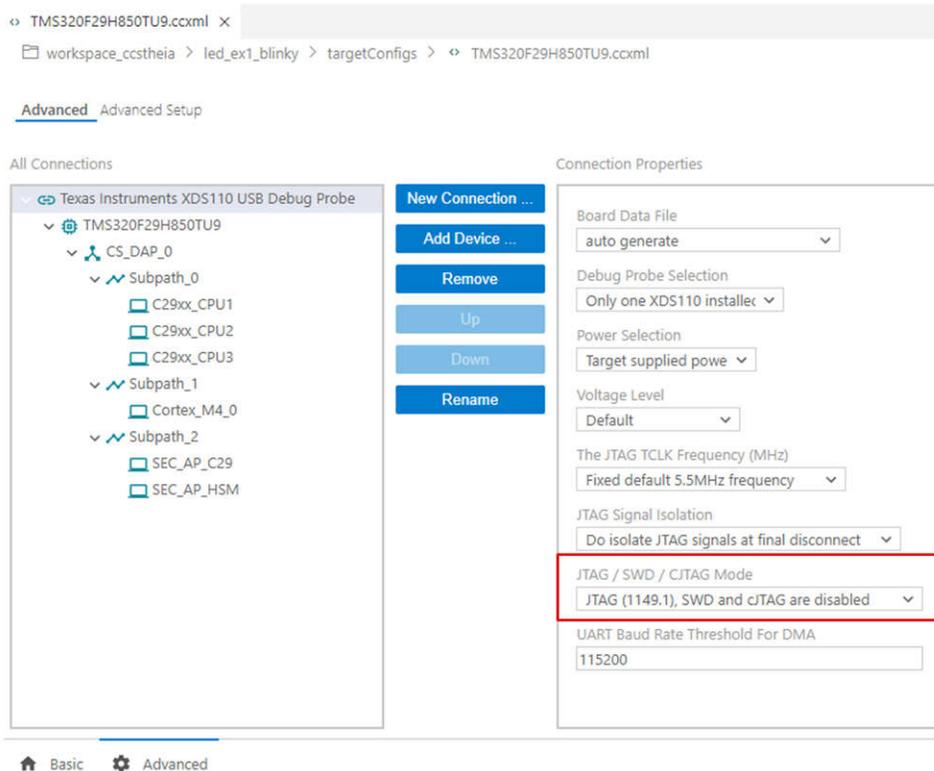

Figure 2-14. Target Configuration Advanced Options
- e. Make sure that the target configuration is set up to use full JTAG mode (see Figure 2-14). Open the Target Configuration file (.ccxml) in Code Composer Studio. Click on the Advanced tab and select "JTAG (1149.1), SWD and cJTAG are disabled" from the "JTAG/SWD/cJTAG Mode" drop-down. Alternatively, a working target configuration file is included in all the F29 SDK examples. This file can be used without modifications.